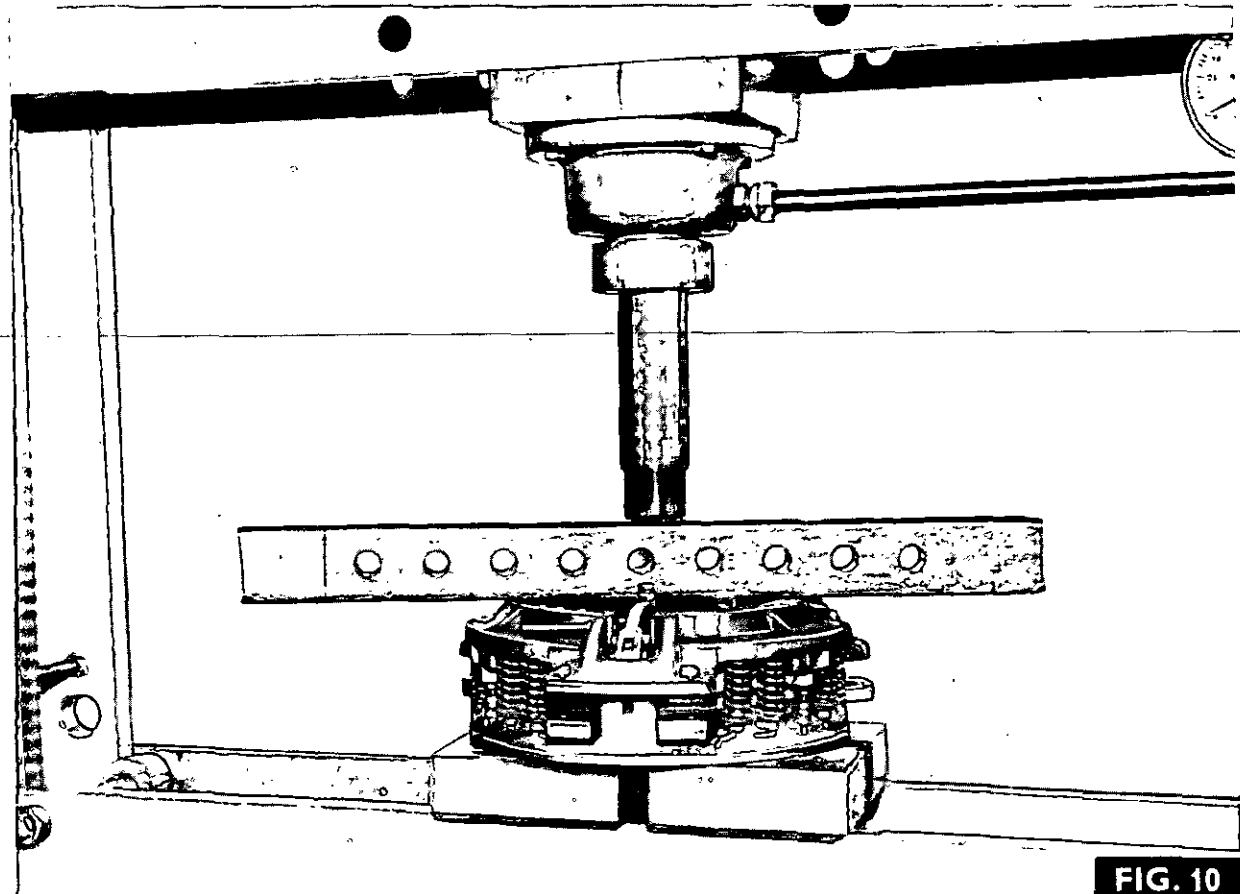

FIG. 10
3. Fig 10. Place the cover assembly on the hydraulic press and locate a suitable bar, as shown.
4. Apply the press pressure until the three ¼ UNC slave bolts can be easily removed. Remove the retaining clips (6), then drive the lever pivot pins (8) out of the cover.
6. Remove the springs (4) from the release levers (7).
7. Release the pressure from the press. The springs (18) will fully expand, raising the cover.
8. Lift off the cover plate (9) Belleville spring (10) p.t.o. pressure plate (11) p.t.o. friction disc (12) and false flywheel (13).
9. Remove the twelve springs (18) and the fibre washers (17).
1. If necessary, refit the links (7 and 14) to the main pressure plate (15).
2. Aligning the marks, refit the false flywheel (13), new p.t.o. friction disc (12) p.t.o. pressure plate (11) and Belleville spring (10).
3. Fit twelve new fibre washers (17) then fit the springs (18) and finally the cover plate (9) locating the links (7) through the slots in the cover plate.
4. Fig 10. Place the cover assembly on the press, refit the bar and compress the springs until the springs (4) and pins (8) can be refitted. Secure the pins (8) with the retaining clips (6).
6. Remove the cover assembly from the press then refit the cover assembly to the tractor, as stated in operation 4A-01-02, using a new friction disc (16).